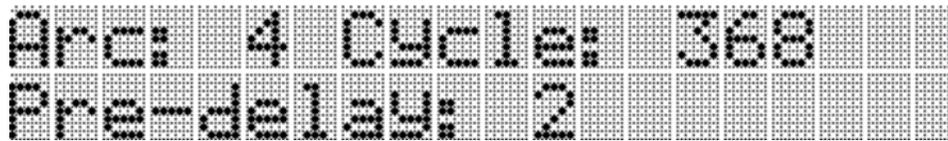

Figure 3.4 LCD system configuration screen
3.3.1. After a valid password is entered, the LCD screen shows the system configuration screen. See Figure 3.4.